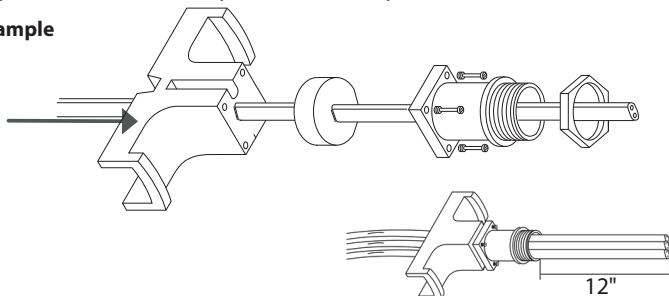

Figure 1.
1. Open the seal fitting as shown in figure 1 below. Then push with force heating cable through the strain relief grommet and body until approx. 12" of cable is exposed to make up cable termination.